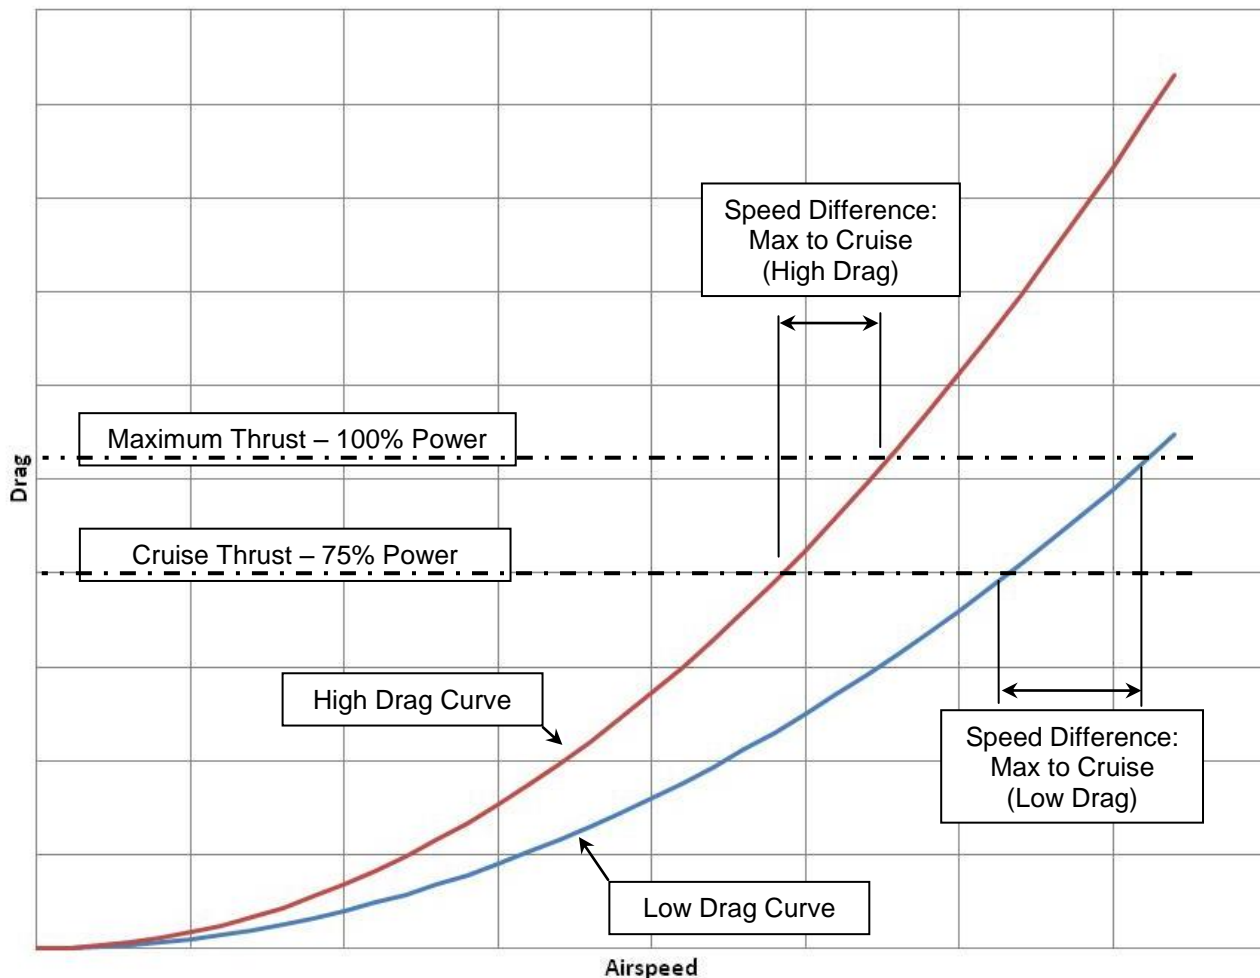

Figure 3 – Airframe Drag Curves
- Figure 3 is a simple representation of a “high drag” aircraft compared with a “low drag” type – showing how drag increases with airspeed.